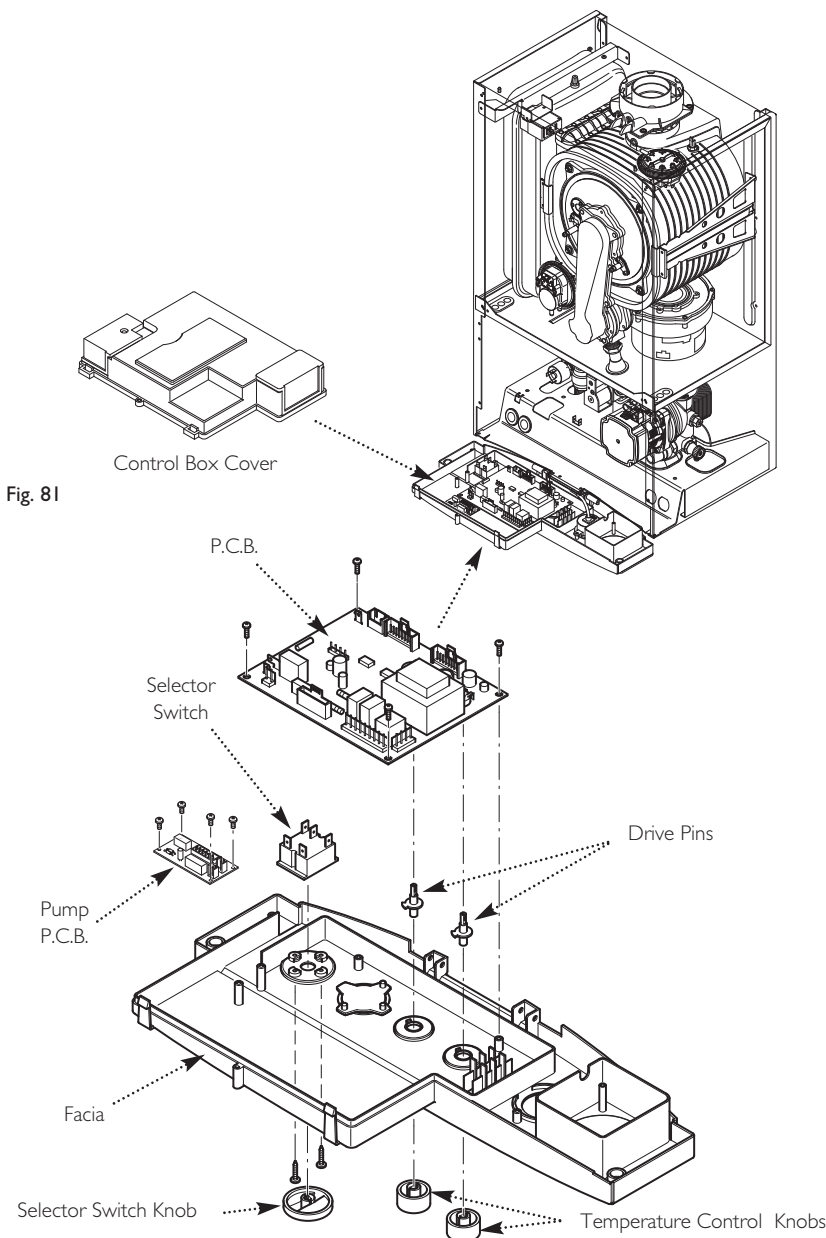

Fig. 82
13.24 Selector Switch (Fig. 82)